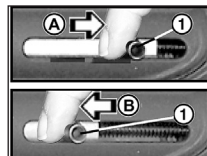

Figure 10: Rear Bolt Handle
2. Put the marker into the uncocked position. Hold the Rear Bolt Handle (#1 in Figure 10) with your finger (arrow A). While holding the handle, pull the trigger and allow the Rear Bolt Handle to move slowly forward (arrow B in Figure 10) which uncocks the marker.